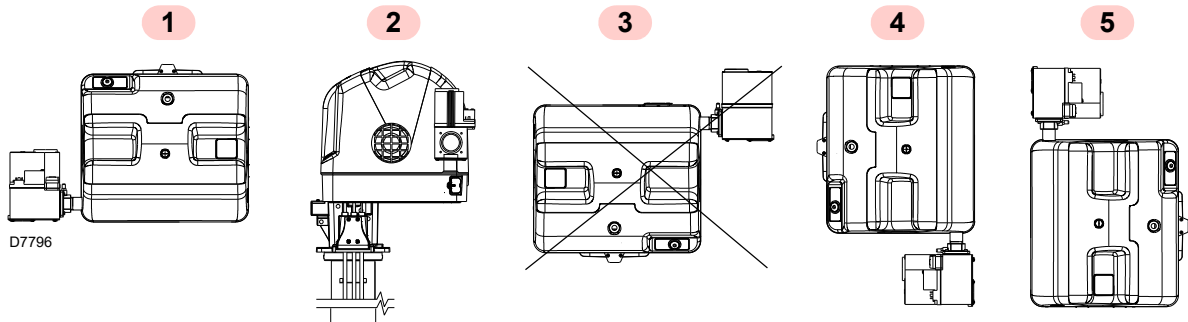

Fig. 11
- The burner is designed to operate only in positions 1, 2, 4 and 5 (Fig. 11).
- All the positions require the installation of the gas valve with coils facing upwards or horizontally (Fig. 11).